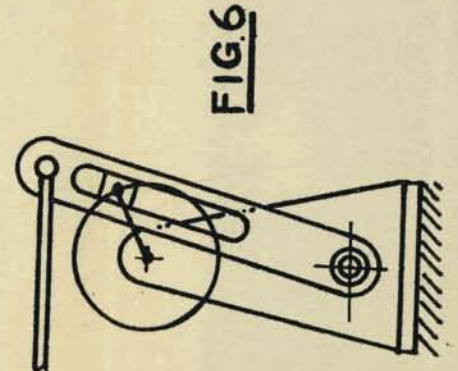

FIG. 6
6. In the crank and slotted lever drive for the shaping machine (Fig. 6) find the turning moment in the driving disc in the position shown, the pull on the connecting rod being 500 lb. The figure is drawn to scale.